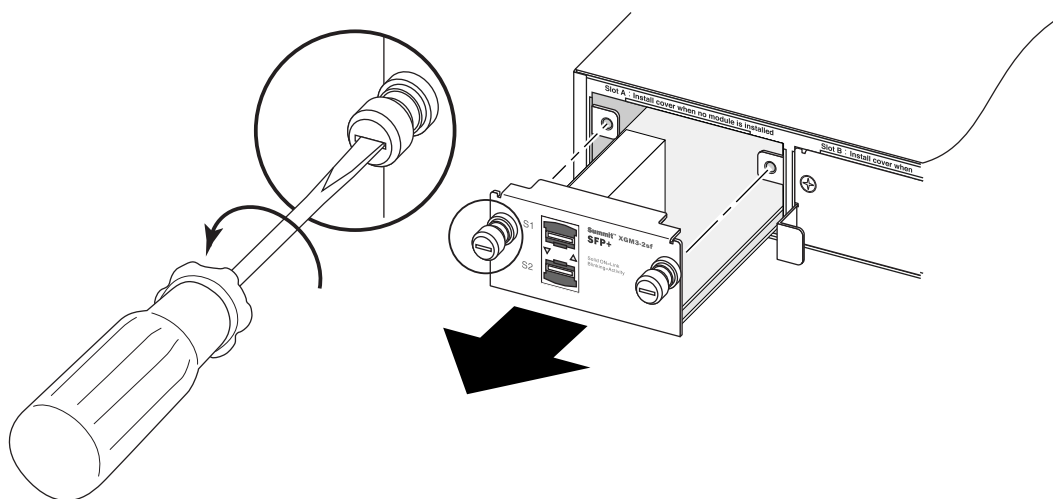

Figure 377: Removing an XGM3-2sf Port Option Card
- 2 Loosen the captive retaining screws on the option card until they are completely loose (see Figure 377: Removing an XGM3-2sf Port Option Card on page 394).